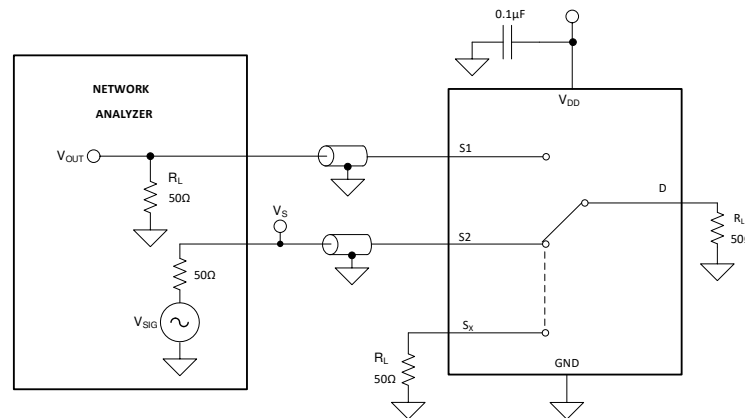

图 6-9. Crosstalk Measurement Setup
Crosstalk is defined as the ratio of the signal at the drain pin (D) of a different channel, when a signal is applied at the source pin (Sx) of an on-channel. 图 6-9 shows the setup used to measure, and the equation used to calculate crosstalk.